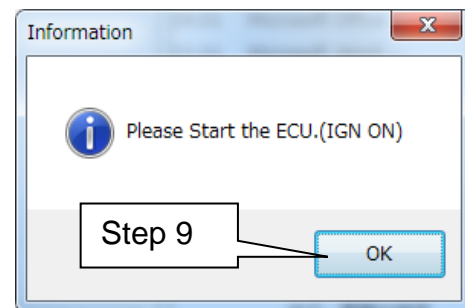

Figure 14
- After selecting OK in Figure 14, the OCS reprogramming will start.